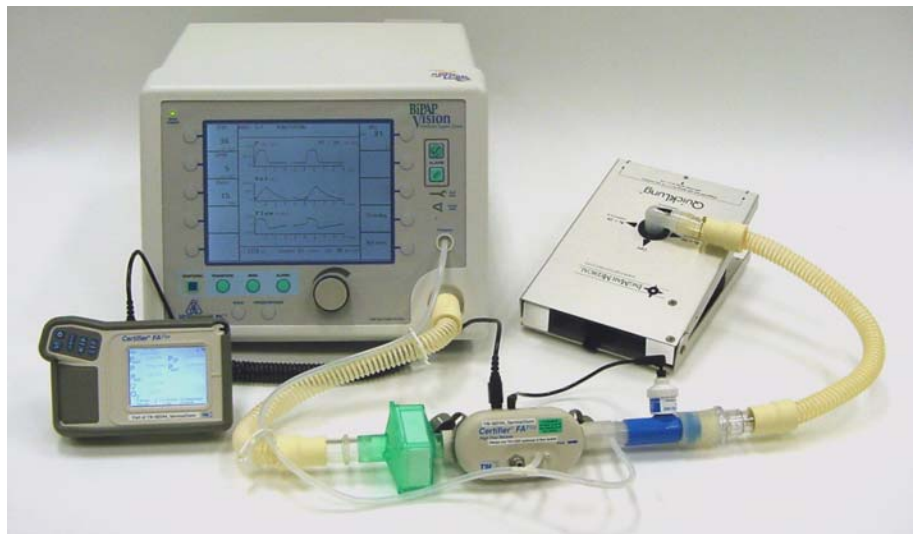

Figure 7-9: Oxygen Module Accuracy Test Setup
2. Figure 7-9 shows the test setup for the OM test.